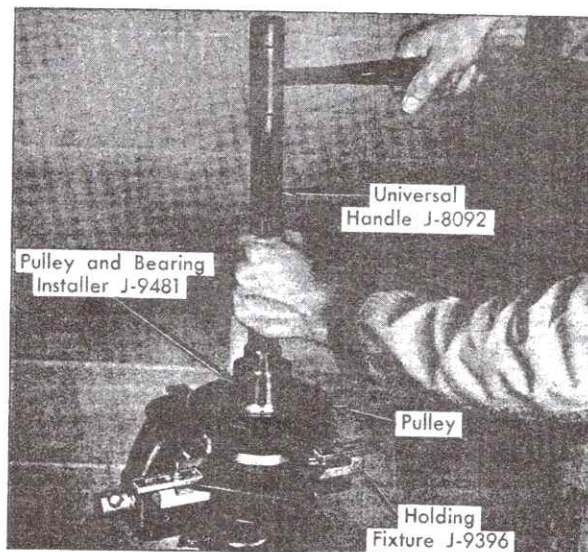

Fig. 1-36 Installing Pulley and Bearing Assembly
3. Press or tap pulley and bearing assembly on neck of compressor until it seats, using Pulley and Bearing Installer, J-9481, with Universal Handle, J-8092, Fig. 1-36. Installer will apply force to inner race of bearing and prevent damage to bearing.